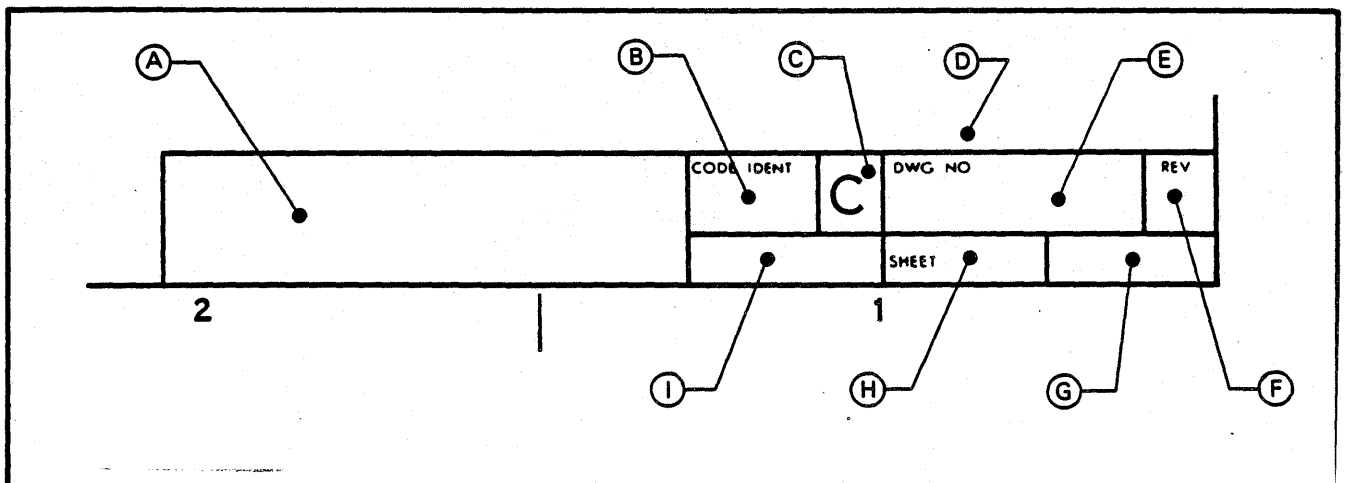

FIGURE 10-3. LOGIC MODULE TITLE BLOCK
- (F) **MODULE INPUTS:** This title indicates the signals listed below it are signals entering the board. Normally they enter on the left side of the schematic diagram.
- (G) **SOURCE:** This column indicates where each signal comes from. Signals coming from components will be shown like this: 1TB3, 3LO1, 4SW2. Signals coming from other boards will be shown like this: 0100-7PC2, 0200-2PC1, 0300-7PC3.
- (H) **SIGNAL NAME:** Self explanatory.
- (I) **MODULE CROSS REF NO:** This column indicates where the signal is found in the logic module. It will appear in this form: 0401-P1-(B). 0401 is the number that will match block G of Figure 10-3. P1 is the connector on the printed circuit board, and (B) is the pin number of that connector.
- ⓔ SCHEMATIC NO: This is the 8 digit drawing number of the schematic diagrams for the logic module being described. It should match the number in block E of Figure 10-3.